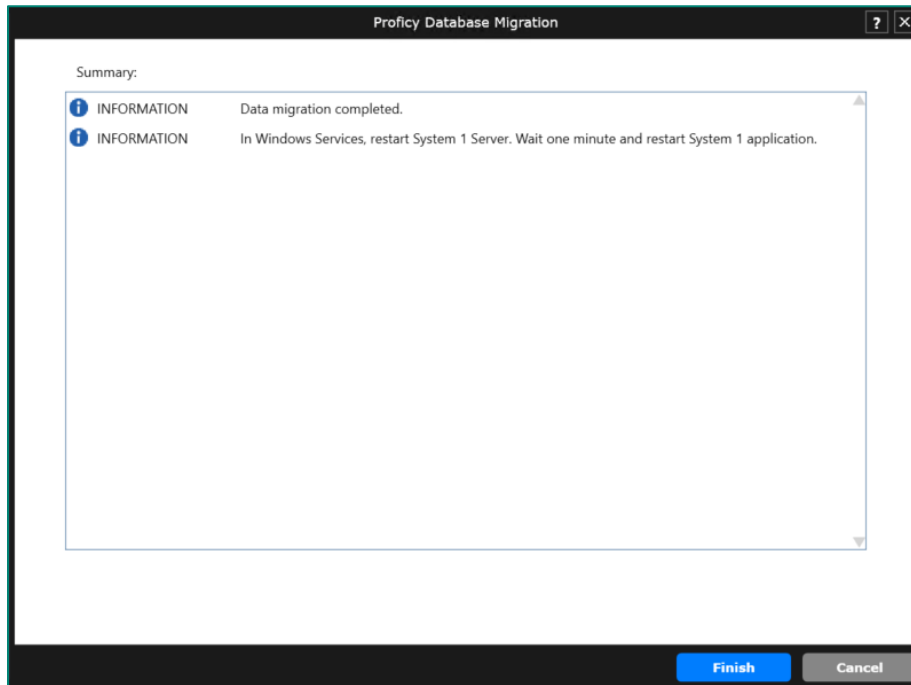

Figure 9: Migration Completed
- Once migration is complete, a Summary screen is shown. As noted in the dialog, System 1 Services must be restarted (Figure 9).